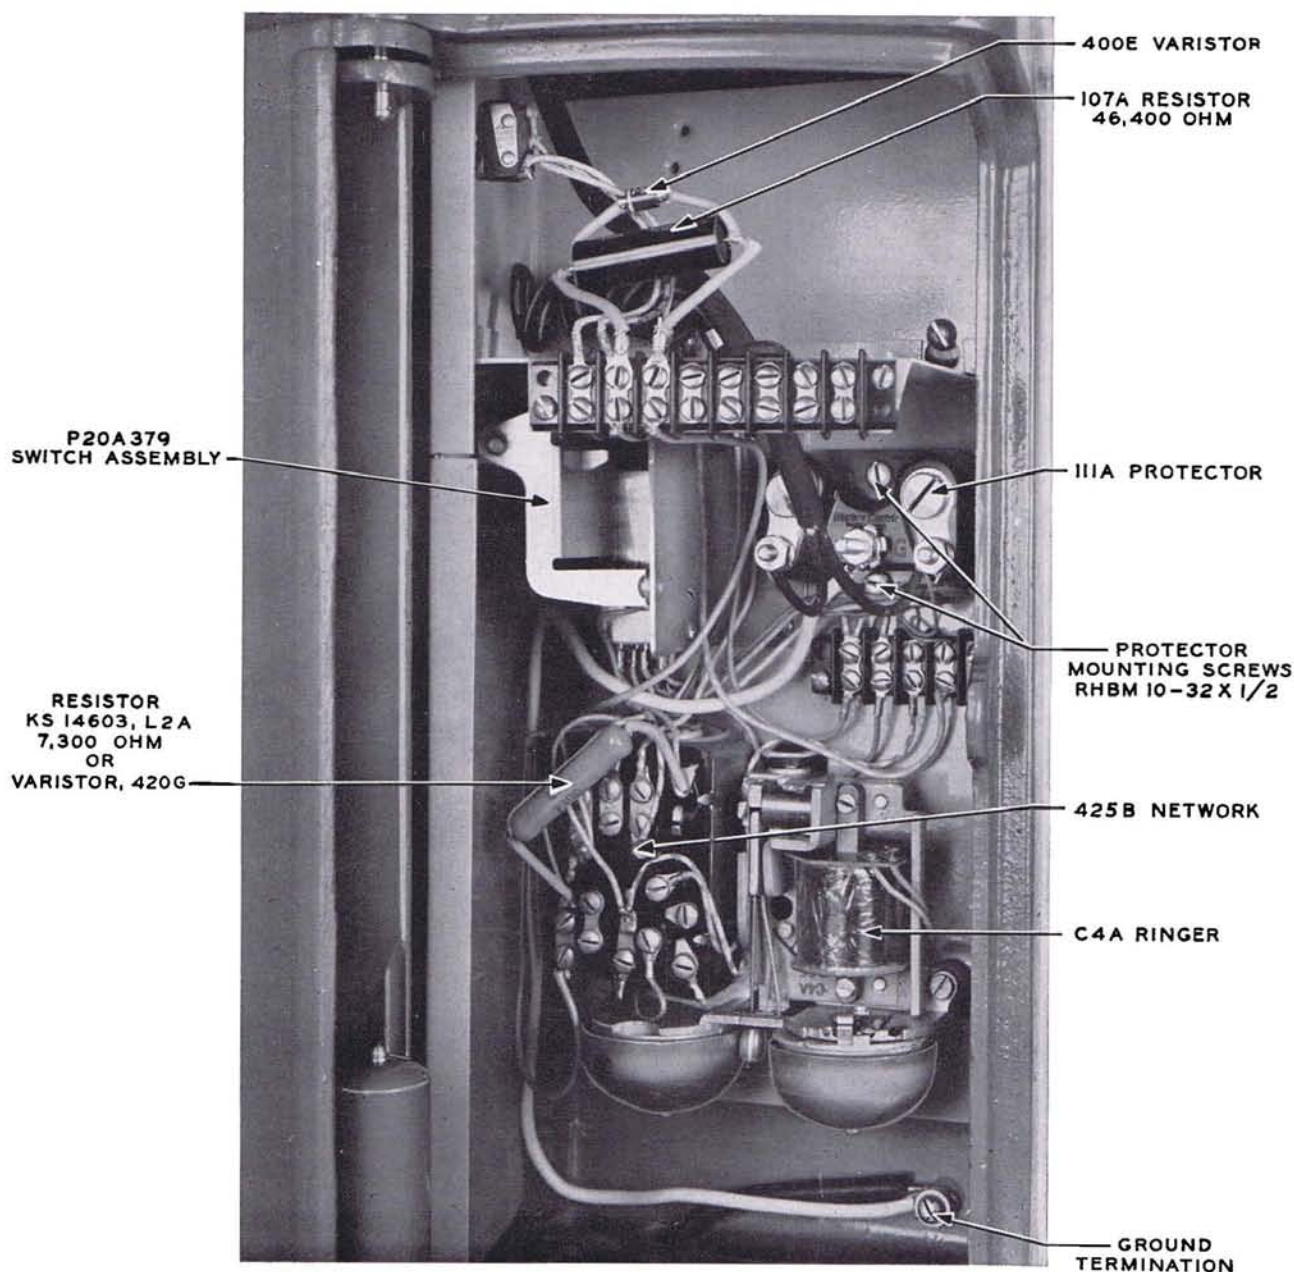

FIG. 5 — 570-TYPE TELEPHONE SET WITH COVER OPEN SHOWING COMPONENTS
4.06 A 111A protector may be mounted, see Fig. 5, if fuseless protection is used. The protector and its mounting screws are not furnished as a part of the telephone set and must be ordered separately. For stations requiring fused protection, the protector should be mounted separately in accordance with standard procedures.